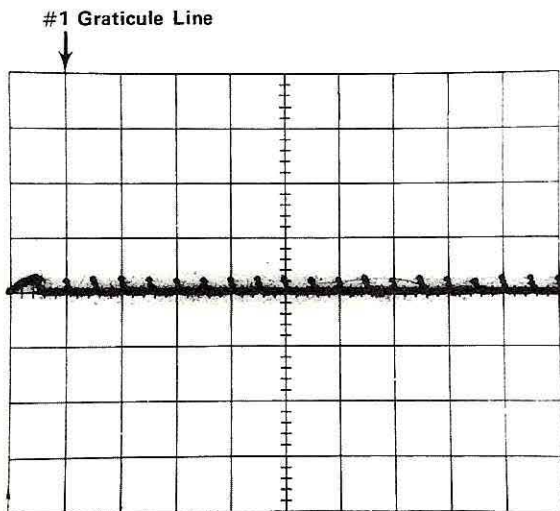

Fig. 7-6. Setting of Leadtime and Registry.
f. Alternately push and release the SWP pushbutton and check that the first narrow time marker remains between 0.0 and 1.1 divisions from the left edge of the graticule (see Fig. 7-6).
b. Turn R472 (see Fig. 7-2) to the clockwise extreme, then adjust counterclockwise until a marker is centered on the number one graticule line (see Fig. 7-6).
d. Adjust R230 (see Fig. 7-2) so that the first narrow marker (see Fig. 7-6) is precisely centered on the number one graticule line.
b. Check that there are two markers per division and that every second marker is within 0.3 division of the corresponding major graticule line for the first through the ninth division (see Fig. 7-6).